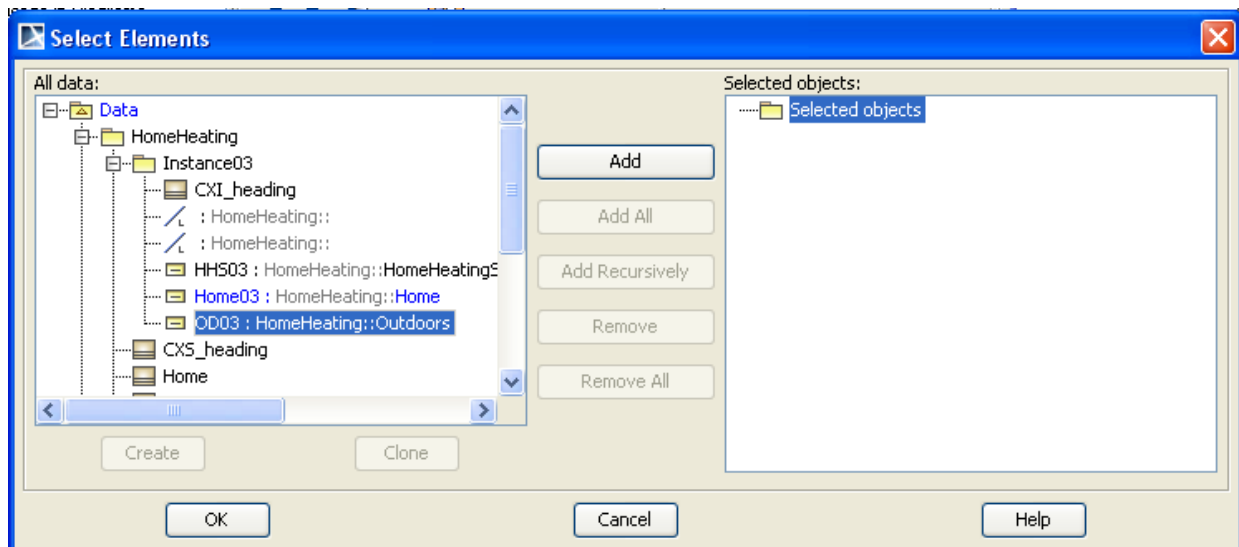

Figure 7.7 Select Elements to link **OD03** to **OD_Home**
- v. Select **OD03:HomeHeating:Outdoors** in the Select Elements window (see Figure 7.7)